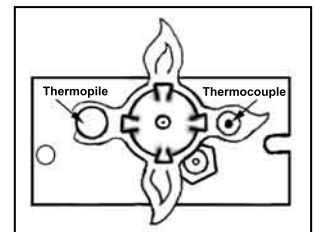

Figure 18: Pilot Burning.
4. Open door. Wait five (5) minutes to clear out any gas. Close door. If you smell gas including near the floor, STOP! Follow "B" in the above safety information. Leak test all gas joints with soapy water **NEVER USE AN OPEN FLAME FOR LEAK TESTING**. If you don't smell gas go to next step.
7. Push the gas control knob in fully and hold. A BATTERY operated electronic igniter will light the pilot. Keep knob depressed for about 30 seconds after pilot is lit. **Check that the pilot flame has fully engulfed the thermocouple assembly (see Figure 18)**. Release knob. If pilot goes out, repeat steps 4 through 6.